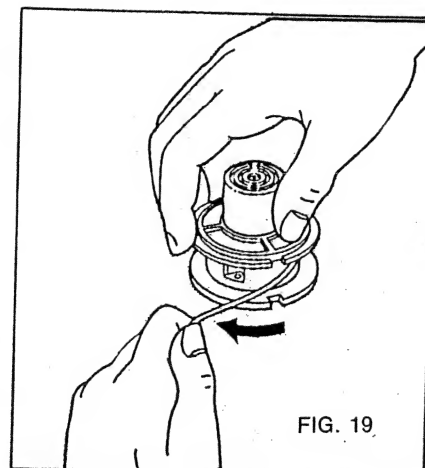

FIG. 19
- b. Insert the end of the line into the hole and begin winding the line around the spool, as shown in Figure 19. Be sure to wind the line in the direction of the arrow in Figure 19.